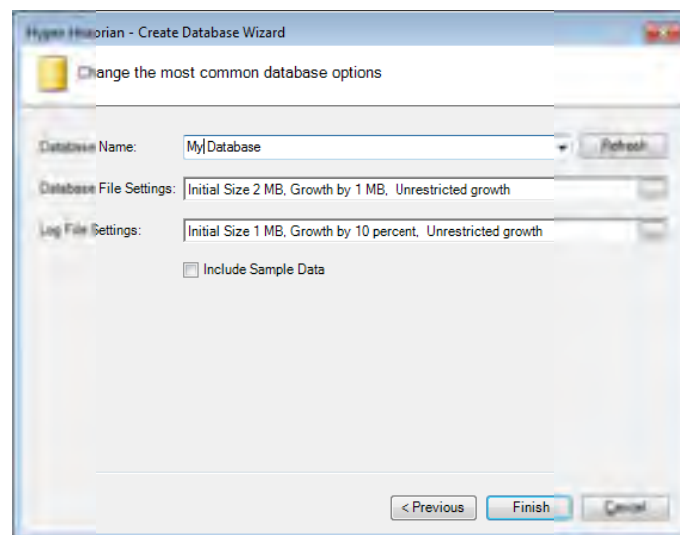

Figure L2.3 - SQL Database Wizard: Common Database Options
6. In the next dialog, shown in Figure L2.3, uncheck **Include Sample Data** option. For the **Database Name**, type “My Database”. Leave the default file settings and click **Finish**.